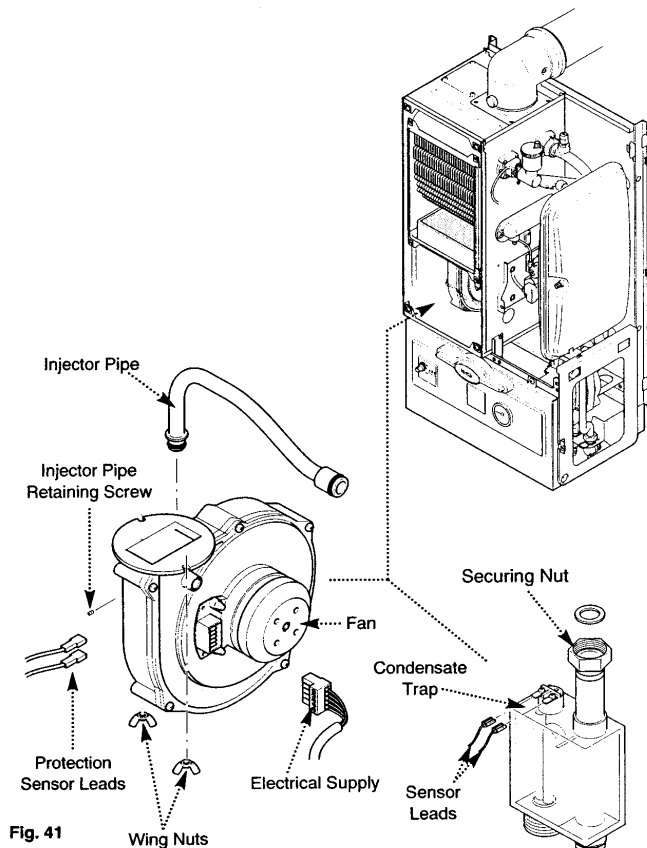

Fig. 41
- Disconnect the electrical leads to the fan component protection sensor (Fig. 41).
- Loosen the screw retaining the gas injector pipe at the venturi (Fig. 41).
- Undo the two wing nuts to disconnect the fan (Fig. 41).
- Remove the fan and disconnect the electrical supply to it (Fig. 41).
- Remove the gas injector pipe from the gas valve (push-fit) (Fig. 41).